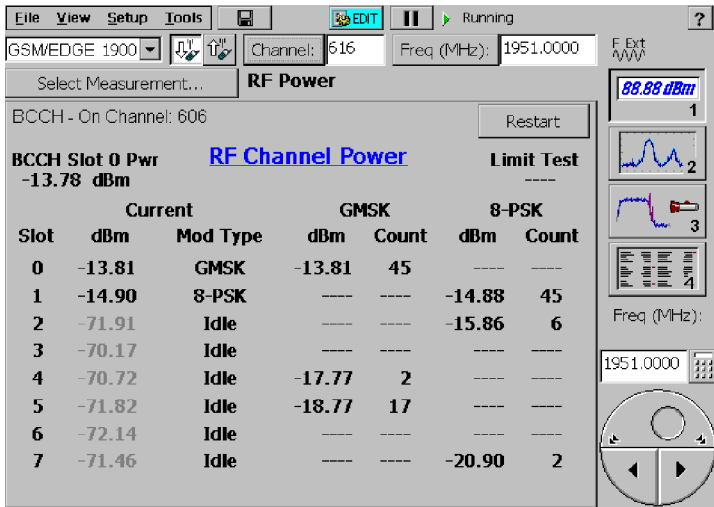

Figure 3-37: GSM/EDGE Absolute RF Power measurement
- Absolute: displays all slot power measurement values as absolute. Measurement values are displayed in dBm units. Figure 3-37 shows a typical RF Power measurement with RF Channel Power set to Absolute.